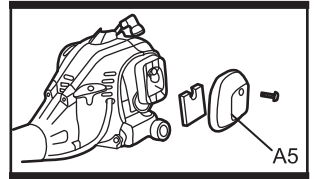

Fig. 19
2. Open the air filter case (A5) with the cross-head screwdriver (D1), and remove the filter. (See Fig. 19)